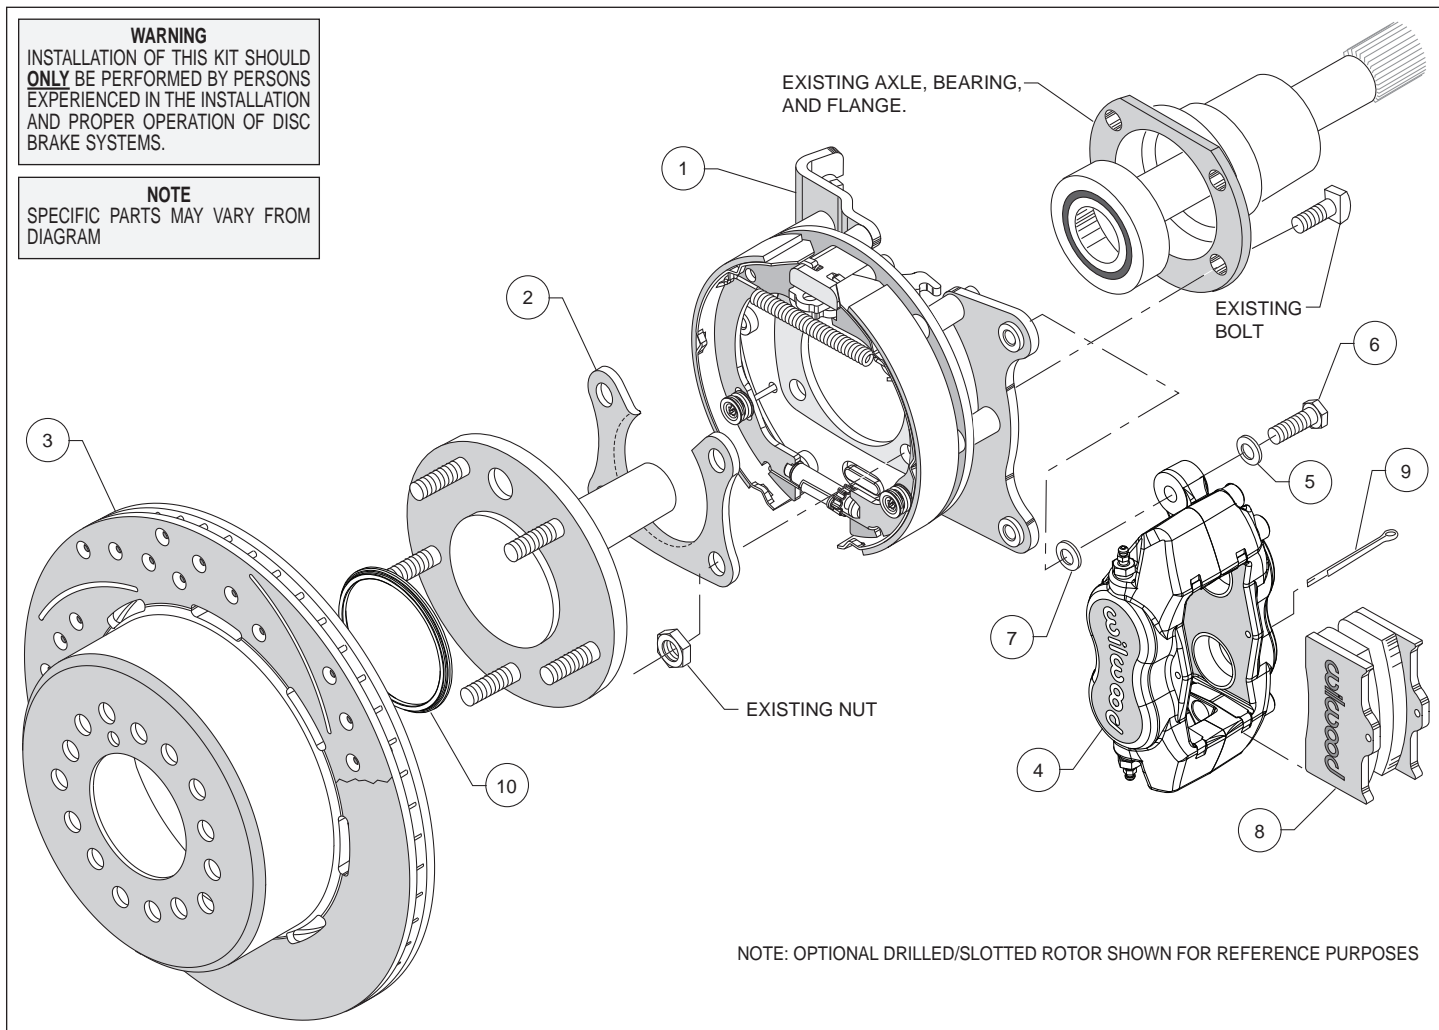
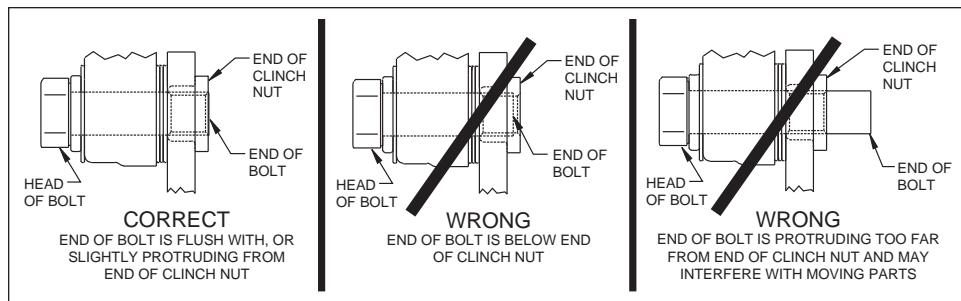

Figure 1. Typical Installation Configuration
Figure 5. Clinch Nut Engagement Diagram
**Assembly Instructions** (numbers in parenthesis refer to the parts list, and Figure 1 on the preceding pages): **CAUTION:** All mounting bolts must fully engage clinch nuts. Be sure to check that all bolts are either flush or protruding through flanged side of clinch nut after shimming, Figure 5.
- Orient the bracket assembly (1) as shown in Figure 1 and Photo 1 and slide it onto the axle. Insert the axle and bracket into the axle housing. Ensure that the bracket assembly backing plate fits flush against the axle housing flange.
- Install the bearing retainer (2) with the opening pointing upward and the lip facing inward (toward the bearing), as shown in Figures 1 and 4, and Photo 2. Secure retainer and bracket assembly to the axle housing flange using the Original Equipment Manufacturer (OEM) bolts and nuts, Figure 1. Apply red *Loctite*® 271 to the OEM bolt threads and torque to OEM specifications.
•Slide the rotor registration adapter (10) onto the axle register on the axle flange with the smaller O.D. facing toward the rotor/hat (3), Photo 3. Align the correct hole pattern in the rotor/hat with the stud pattern on the axle flange and slide into place, Figure 1 and Photo 4. **NOTE:** The rotor/hat must fit flush against the axle flange or excessive rotor run out may result. Install three lug nuts (finger tight) to keep the rotor/hat assembly in place while continuing with the installation. **NOTE:** Some OEM and after market axles come with stud sizes larger than 0.50" diameter. Verify stud size and have a qualified machine shop drill the bolt circle of the hat/rotor to the correct stud size, if necessary.
•**NOTE:** Please reference the caution statement at the beginning of the assembly instructions. Mount the caliper (4) onto the caliper mounting bracket (1) using bolts (6) and washers (5), as shown in Figure 1. Initially place two .035" thick shims (7) on each bolt between the caliper and the bracket, Photo 5. Temporarily tighten the mounting bolts and view the rotor (3) through the top opening of the caliper. The rotor should be centered in the caliper, Photo 6. If not, adjust by adding or subtracting shims between the bracket and the caliper. Always use the same amount of shims on each of the two mounting bolts. **NOTE:** The end of each bolt must be flush with or slightly protruding from the head of the clinch nut, as shown in Figure 5. If necessary place spare shims between washer (5) and caliper mounting ear to achieve the proper clinch nut engagement. Once the caliper alignment and clinch nut engagement are correct, remove the bolts one at a time, apply red *Loctite*® 271 to bolt threads, and torque to 40 ft-lb.